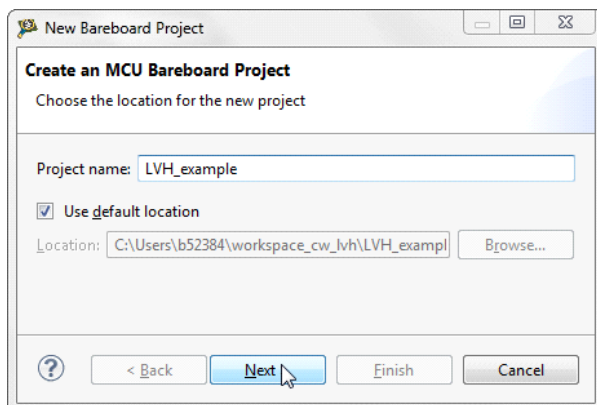

Figure 10. Create an MCU Bare-board Project
1. Create and name an MCU Bareboard project (see Figure 10).